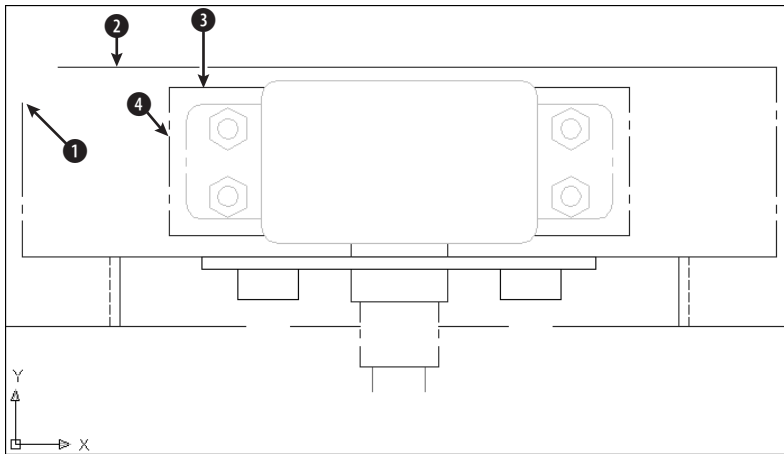
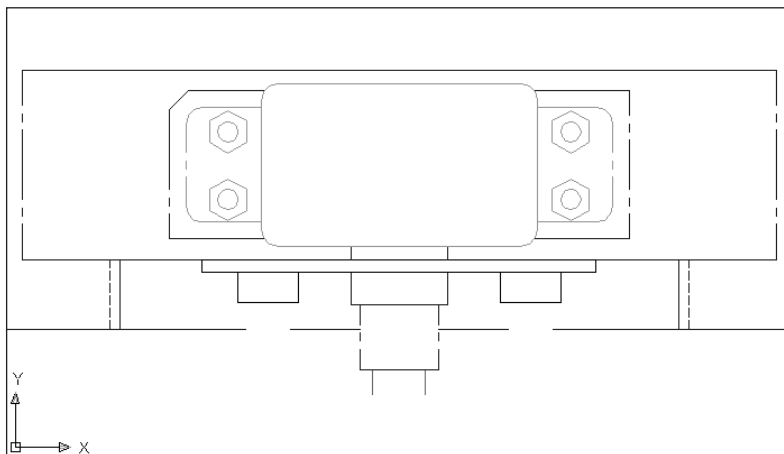

Figure 10-30: A mechanical drawing showing a small section of a “porcupine” mixer
Figure 10-31: The edited drawing after using the CHAMFER command
2. Save the file as `ab10-10.dwg` in your AutoCAD Bible folder. This drawing is a very small section of a “porcupine” mixer, as shown in Figure 10-30.
4. At the Select first line or [Polyline/Distance/Angle/Trim/Metho d/mUultiple]: prompt, pick ① in Figure 10-30. At the Select second line: prompt, pick ②. AutoCAD chamfers the two lines to make a corner. (If this doesn’t work, you may have the Trim option set to No Trim. Change the setting to Trim and try again.)
6. At the Select first line or [Polyline/Distance/Angle/Trim/Method/multiple]: prompt, pick ❸ in Figure 10-30. At the Select second line: prompt, pick ❹. AutoCAD chamfers the two lines, as shown in Figure 10-31.